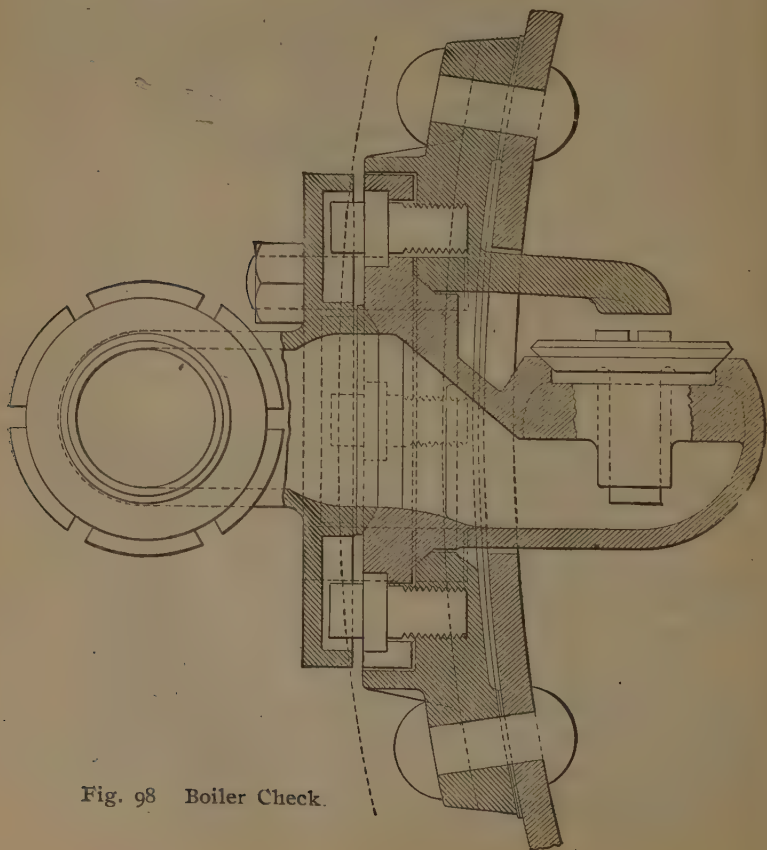

Fig. 98 Boiler Check.
A. As in Fig. 98, where there is an angle poppet valve with a finger which limits its lift; this being the P. RR. standard.